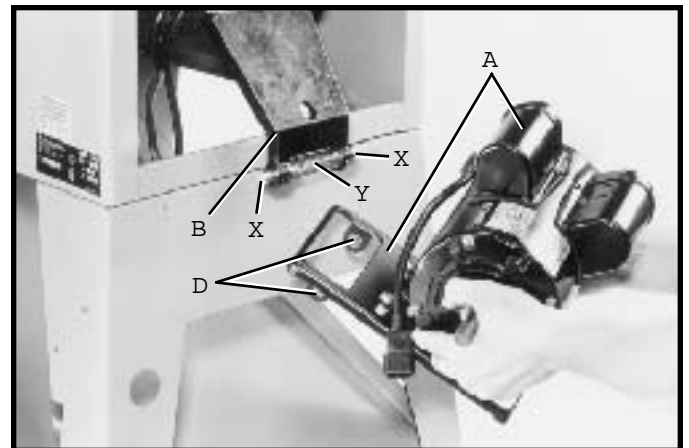

Fig. 13
- 1 Insert two pins (X) Fig. 13, into holes (D) in each side of bracket (B). Assemble spring (Y) onto ends of pins (B) as shown.
- 2 Position motor and motor mounting plate (A) Fig. 13, below bracket (B) to allow bracket arm to slide through large opening in motor mounting plate (A).
- 3 Depress plungers (X) Fig. 14, on both sides of bracket (B) and rotate motor mounting plate (A) until plungers (X) are engaged in holes (D) Fig. 13, of motor mounting plate (A).